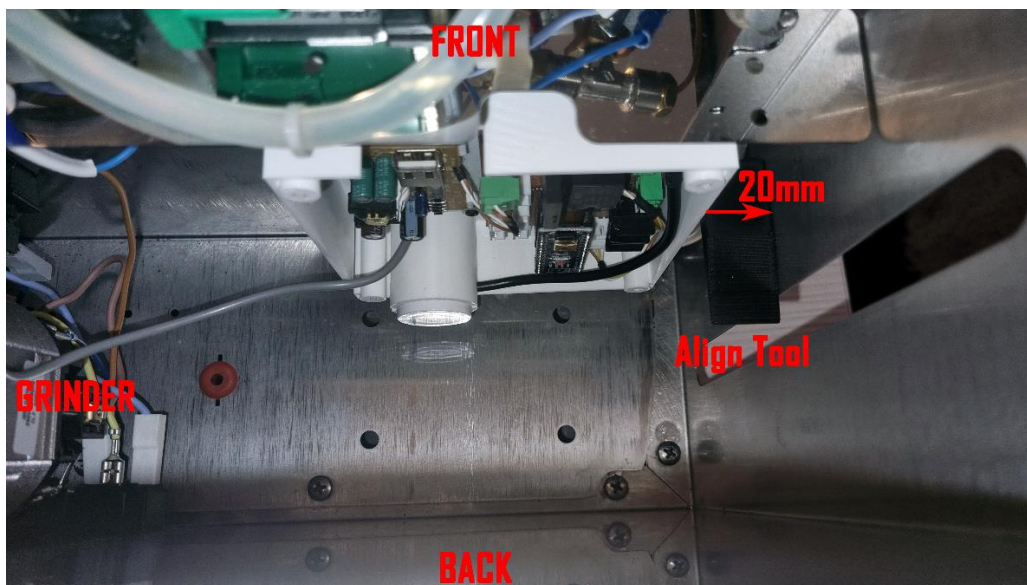

Fig. 6.1
- You will mount the case inside the machine behind the water tank. (fig. 6.1)